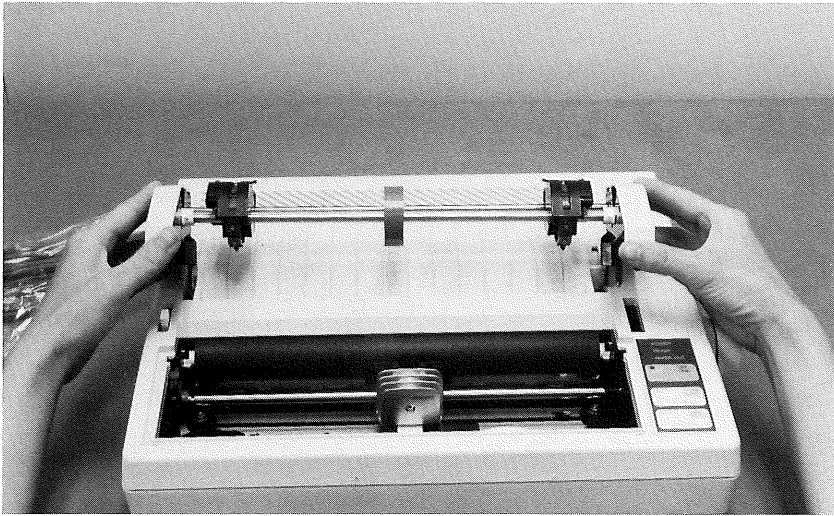

Figure 10.
17. Hold the tractor drive at an angle, tilted towards the back of the printer. Position the back legs of the tractor drive over the pegs in the printer. Then rotate the tractor drive forward until the front legs lock into place. See Figure 10.